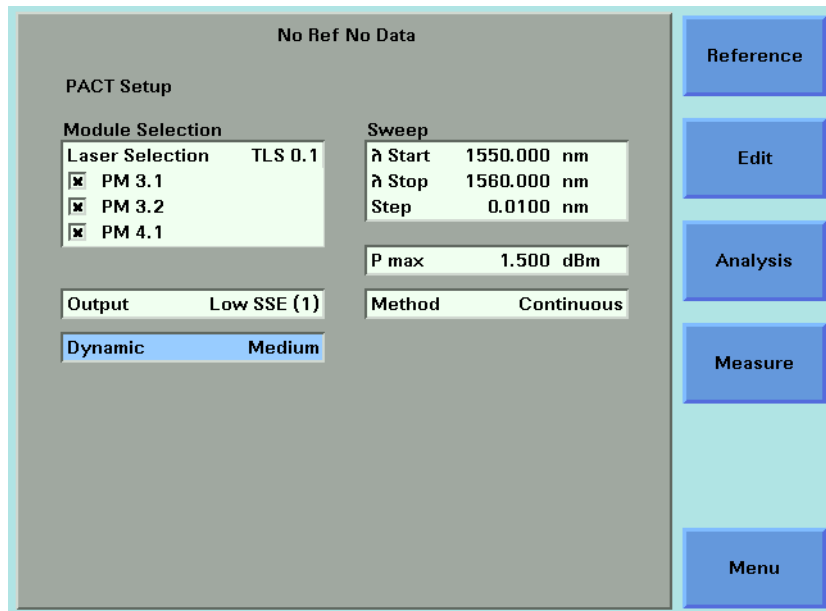

Figure 178 The PACT Setup Screen
- 4 Move to <PACT> and press *Enter*. The PACT Setup Screen, as shown in Figure 178 on page -288, appears.